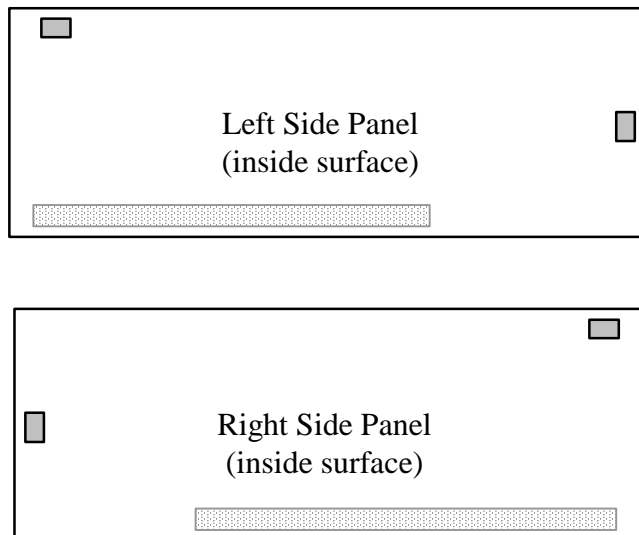
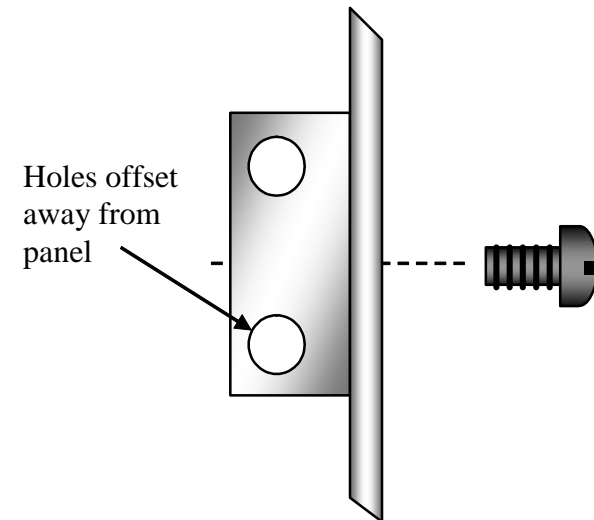

Figure 6-6
Figure 6-7
- Arrange the two panels as shown in Figure 6-6, and verify that they are mirror images of each other. The 2-D fasteners to be attached in the next step go on the *inside* surface, which has bare aluminum areas that were masked during painting. (**Note:** the actual size and shape of masked areas may vary.)
- Install two 2-D fasteners on each side panel at the locations indicated by small rectangles in Figure 6-6. Use one chassis screw to hold each fastener to the side panel (see Figure 6-7). The two unused holes on each fastener must be offset *away* from the side panel.